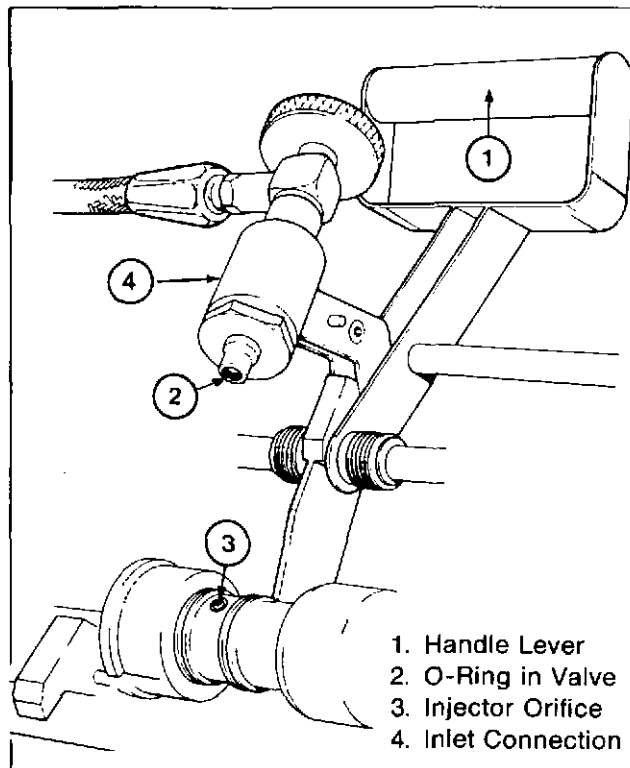

Fig. 2-53. Handle lever and inlet connection
1. Check to be sure the O-ring, in the self-sealing valve in the test oil inlet connection, is in position. This O-ring seals against the injector orifice plug when the handle lever is lowered, Fig. 2-53.